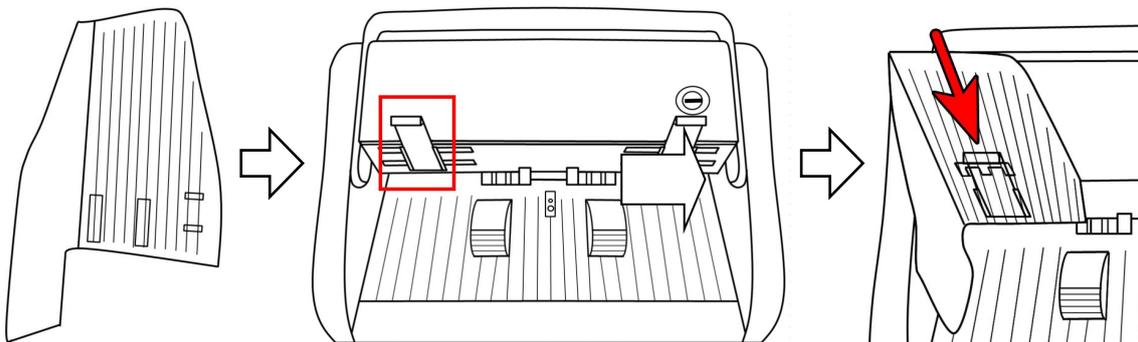

Figure 3
1) Take out the left Note Guider, install the click into the rail of the Note Guider, and press the Note Guider until you hear a clicking sound, it means the Note Guider is installed in position, as shown in the Figure 3.